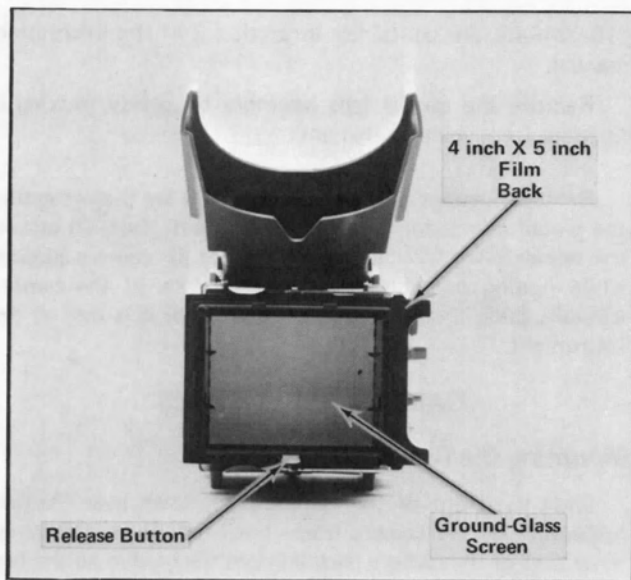

Fig. 2-2. The 4 inch X 5 inch Film Back installed to permit focusing.
3. Install the 4 inch X 5 inch film back onto the camera and press the release button on the 4 inch X 5 inch film back, See Fig. 2-2.